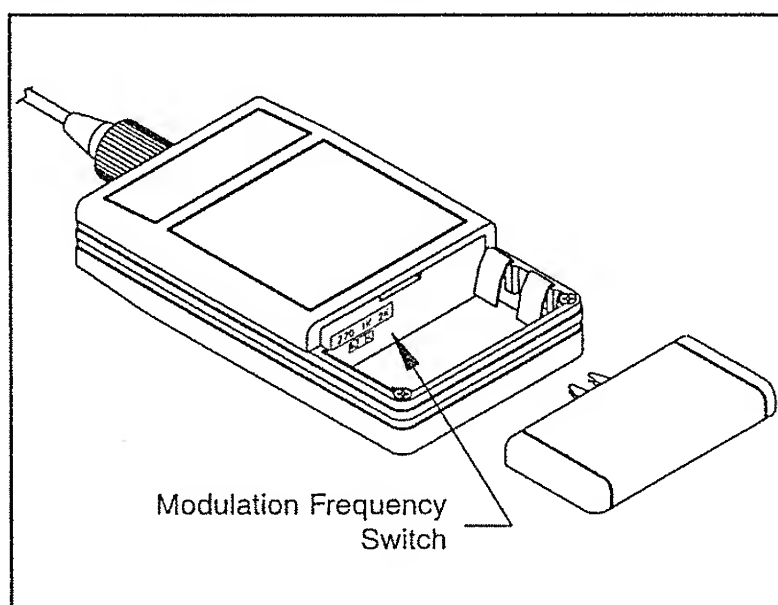

Fig. 3.2 Changing the Modulation Frequency of the TOP130/140/150/160 Sources
FREQUENCY SELECT	This switch, located inside the battery compartment, sets the modulation frequency. (See Figure 3.2)
These Source instruments are shipped with the modulation frequency switch set to 1kHz. To change this setting simply remove the two AA batteries and set the switch to the desired position (see Figure 3.2). Replace the batteries, battery cover, and protective instrument cover. To operate the instrument in the modulated mode, simply slide the main switch to the MOD position and the light will be square wave modulated. Note: The average power output will be 3dB less than the average power in CW mode.
- OFF/CW/MOD** This switch turns the unit off or selects continuous (CW) or modulated (MOD) "blink" (~1Hz) mode.
- FREQUENCY SELECT** This switch, located inside the battery compartment, sets the modulation frequency. (See Figure 3.2)
- MOD** This button toggles between CW (Continuous Wave or DC, MOD indicator is off) and MODulated modes (source output is modulated, MOD indicator is on). When the MODulation mode has been selected, the MODulation frequency is determined by the setting of the Modulation Frequency Switch (270/1000/2000Hz) accessible via the battery compartment. (See Figure 3.2)